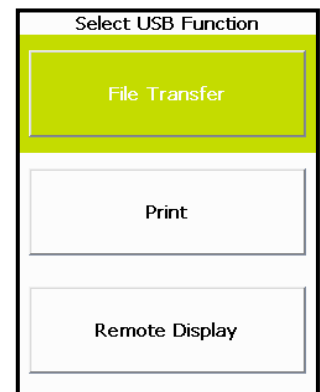

Fig 4.21 Select USB Function
- **Ask Each Time:** after connection to USB, the following three options will appear in a new screen (Fig 4.21).